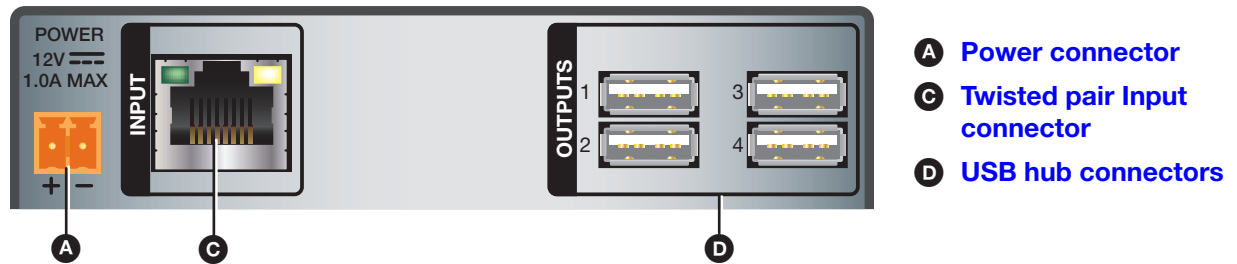

Figure 5. Receiver Rear Panel Connectors (Rack Mountable Models)
- **Transmitter** — Connect a TP cable from the RJ-45 Input connector of the receiver (see figure 5, **C**) to this female RJ-45 connector.